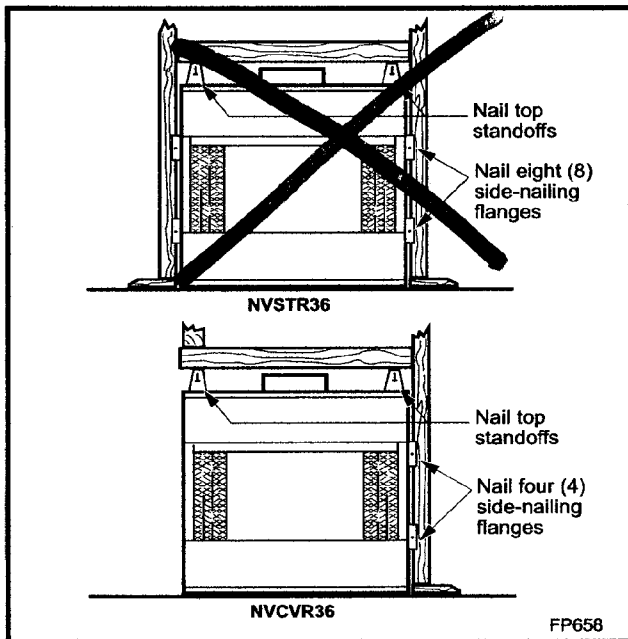

Fig. 4 Adjustable drywall strip (nailing flange).
2. Eight (8) nailing flanges are supplied with the NVSTR fireplace (found on the fireplace hearth). Four (4) nailing flanges are supplied with the NVCVR fireplace. To level the box and secure it firmly in place, remove the nailing flanges from the hearth and install at the sides of the fireplace as shown in Figure 4.